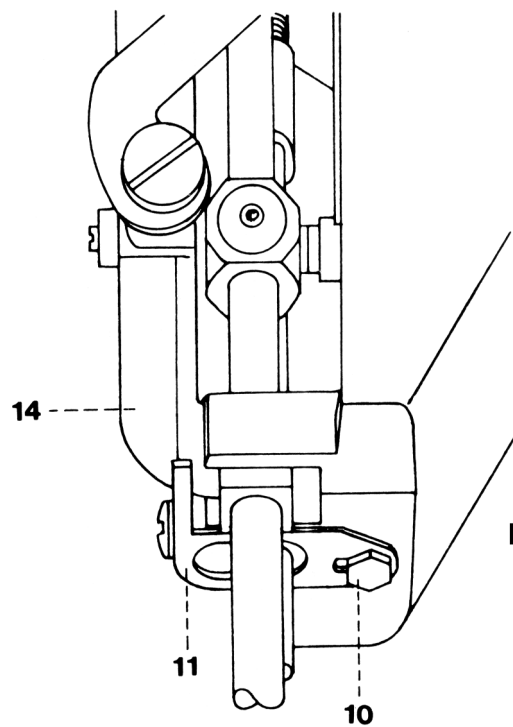

Fig. 4d
- Loosen screw 10 using a 7 mm wrench, until the needle bar frame stop 11 can be moved (fig. 4d).
- Adjust needle bar frame stop 11 so that it does not strike against the needle bar frame 14 on left and right of zigzag throw nor when control knobs are turned (fig. 4d).